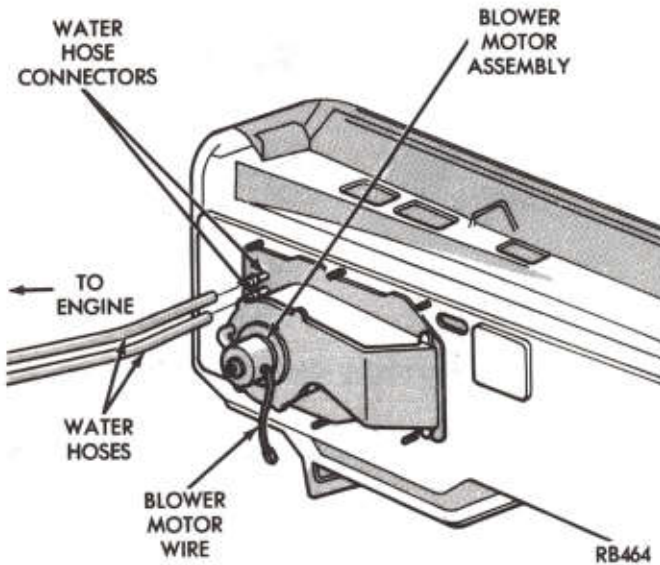

Fig. 8—Water Hose Connections
- (1) Disconnect negative battery cable.
- (2) Remove water hoses on engine side and plug hoses and inlets on package (Fig. 8).
- (3) Remove right cowl side trim panel if so equipped.
- (4) Remove glovebox by removing four (4) mounting screws at base and swinging out from the bottom to avoid catch and stops.
- (5) Remove structural brace through glovebox opening.
- (6) Remove right half of instrument panel lower reinforcement (8 screws). Be sure to disconnect the ground strap.
- (7) Disconnect control cables (see "Control Cable Removal").
- (8) Disconnect blower motor wires on engine side.
- (9) Remove screw that retains package to cowl side
- (8) Install right cowl side trim panel is so equipped.
- (9) Unplug inlets and water hoses and connect hoses to inlets on package (Fig. 8).
- (10) Connect negative battery cable.